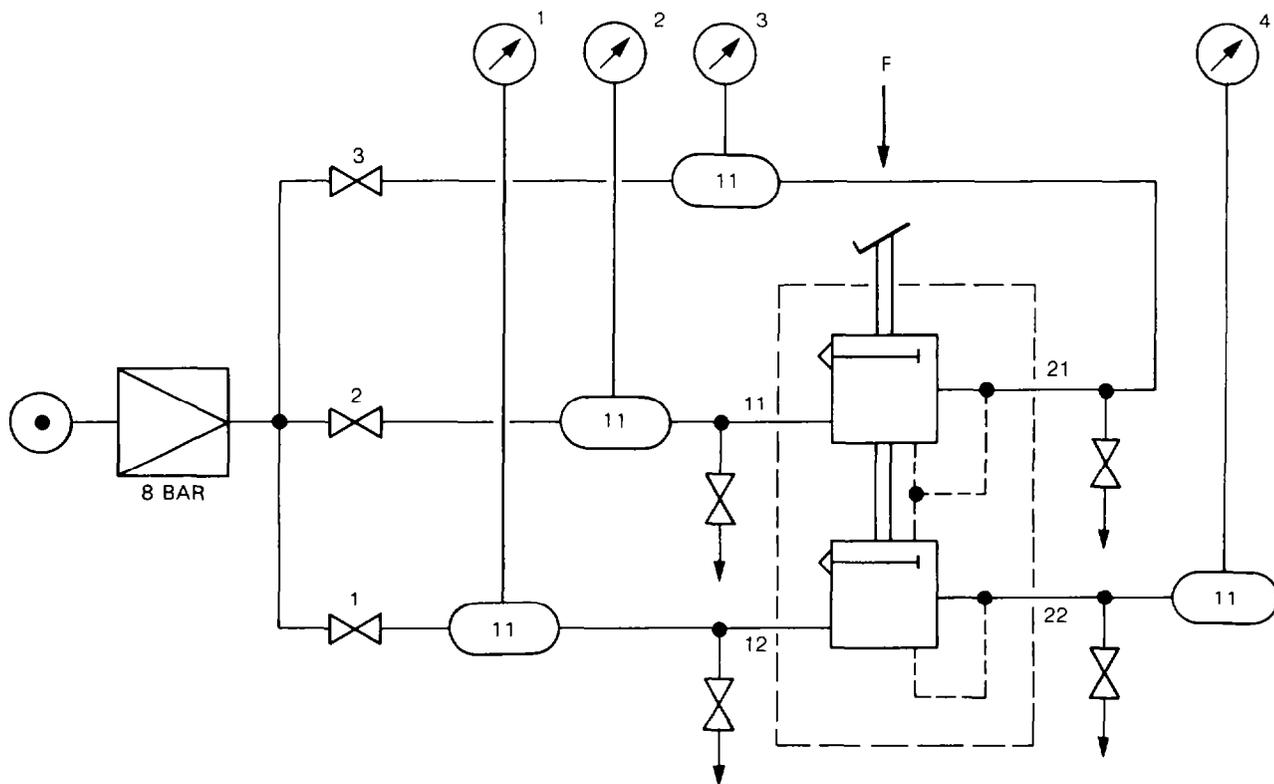

Figure 110 Test Connections
- a. Connect the valve to a pressure source via an 8.0 bar pressure limiter with gauges and control cocks as shown in Fig 110.